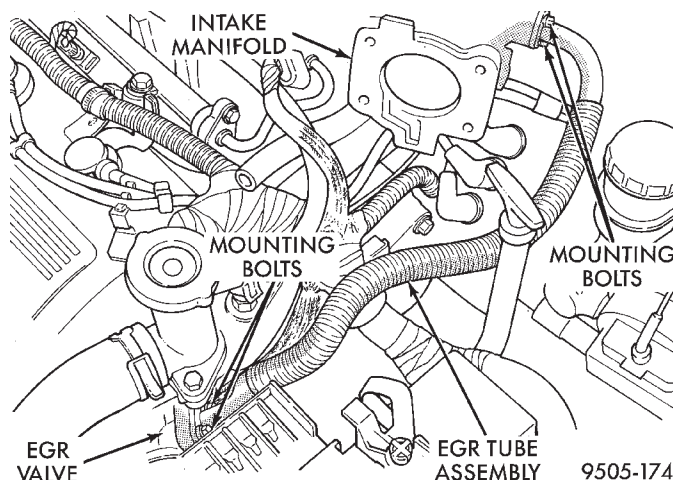

Fig. 107 EGR Tube Attachment To Intake Manifold And EGR Valve
(6) Remove the EGR tube (Fig. 107) from the intake manifold and EGR valve.
(13) Install the EGR tube with **NEW** gaskets on the intake manifold and EGR valve (Fig. 107). Install the 4 mounting bolts and tighten to a torque of 11 N·m (95 in. lbs.).